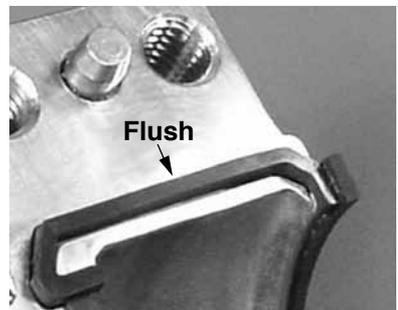

Figure 27
10.5 Place the split joint gasket in the groove. The split joint gasket should be flush with the gland gasket groove surface, top of the seat gasket, and top of the split joint gasket groove. Hold it in place for 10 seconds. See Figure 27.